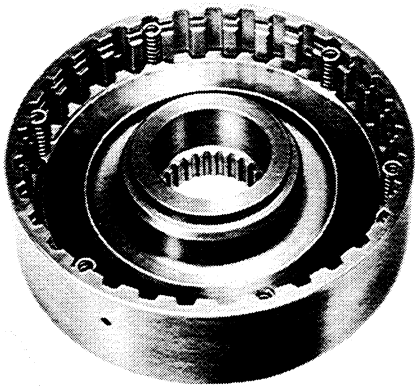

FIG. 22
14. Fig 22. Fit one interplate (47) to the clutch housing, with the lugs on the interplate located in the housing splines immediately to the right of the six holes in the housing.
15. Fig 22. Fit the six springs (49) as shown, placing them on the interplate lugs.